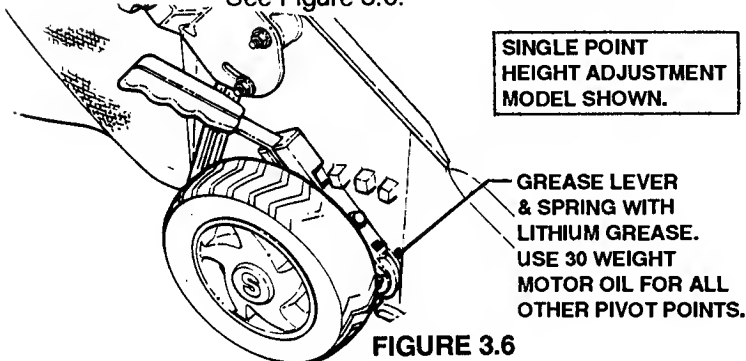

FIGURE 3.6
2. Lubricate handle pivot with Lithium grease. See Figure 3.6.